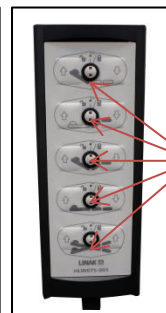

Figure 10: Test each function on the handset
12. Careful place the bed back onto its wheels and test handset functions (figure 10), by default the Trendelenburg function is locked out.